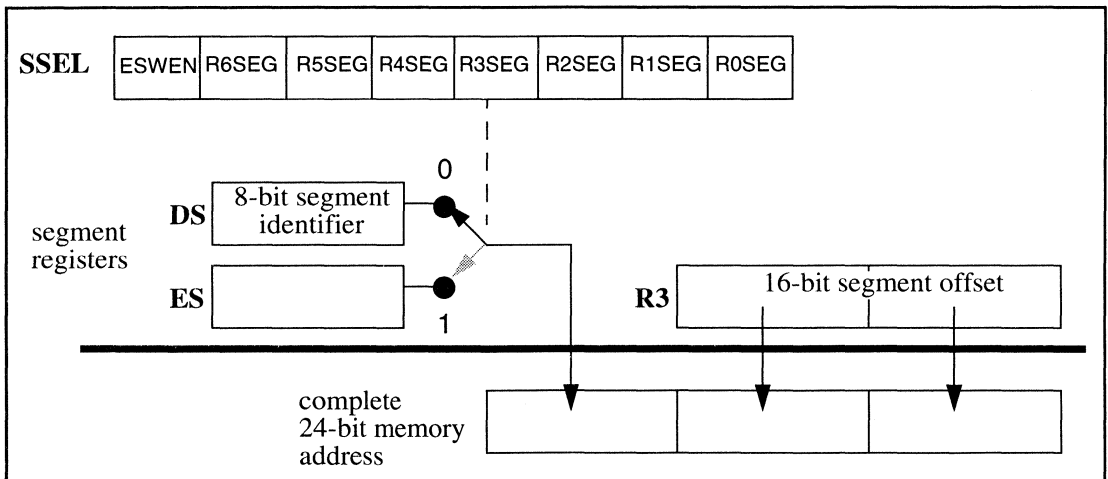

Figure 3.5 Address generation
Segment registers provide the upper 8 address bits needed to obtain a complete 24-bit address in applications that require full use of the XA 16 Mbyte address space. Two segment registers are defined in the XA architecture for use in accessing data memory, the Data Segment Register (DS), and the Extra Segment Register (ES). As user stacks are located in the segment specified by DS, it is probably most convenient to address user data structures through ES. Each pointer register, namely R0 through R6, is associated with one of the segment registers via the Segment Select (SSEL) register as illustrated in Figure 3.5.